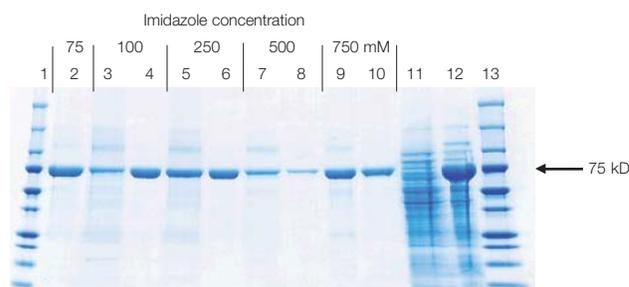

Fig. 2. Analysis of protein fractions purified using Profinity IMAC resin.
A 1 ml Econo-Column® chromatography column (0.5 cm ID x 5 cm) was packed manually with Profinity IMAC  $\text{Ni}^{2+}$ -charged resin (60  $\mu\text{m}$ ). Five separate runs were conducted, with either 75, 100, 250, 500, or 750 mM imidazole in the elution buffer. Following elution and a subsequent wash step, the column was regenerated using the loading and charging buffers listed under Setup. These five successive runs were linked through the buffer scouting function of the BioLogic DuoFlow software. For each run, the column was preequilibrated with 10 column volumes (CV) of loading buffer at a flow rate of 1.5 ml/min. Crude *E. coli* lysate (250  $\mu\text{l}$ ) containing a 75 kD His-tagged protein was loaded into a 3 ml injection loop and injected into the column through an AVR7-3 valve. Host protein contaminants, which were not retained by the Profinity IMAC resin (Figure 2), were removed by washing the column with 10 CV of the loading buffer. The 75 kD His-tagged protein was then eluted with 5 CV of imidazole elution buffer, followed by an additional wash with 10 CV of the loading buffer to eliminate residual proteins from the column. The column was then regenerated as detailed in the following steps using
The data in Figures 2 and 3 indicate that optimal results were obtained with an elution buffer consisting of 250 mM imidazole, 50 mM potassium phosphate, 300 mM NaCl, pH 8.0. This elution buffer provided the most effective separation and removal of the impurities (Figure 2, lanes 5 and 6, respectively).